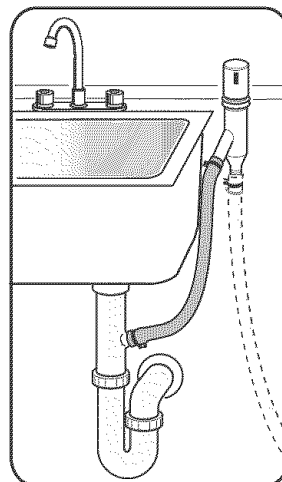

Figure 20
- 3) To the undersink dishwasher drain connection through an air gap, as shown in Figure 20.